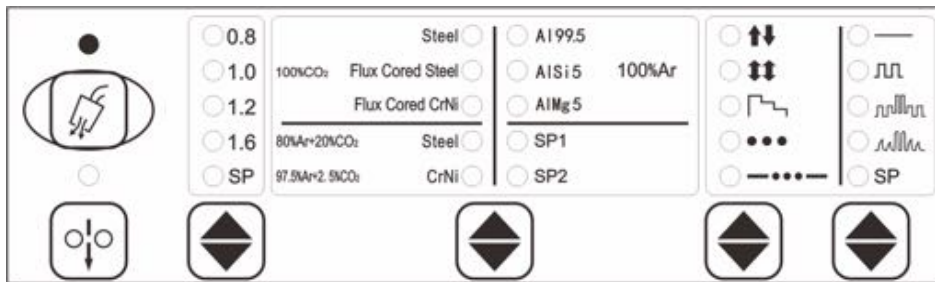

Figure 3-10 Gas check of the panel of a welding power source
3. Gas check of the panel of a welding power source is shown in Figure 3-10.